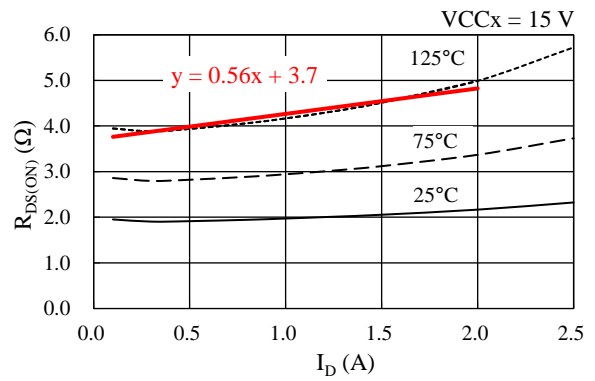

Figure 14-3. Linear Approximate Equation of  $R_{DS(ON)}$  vs.  $I_D$
Steady-state loss in a power MOSFET can be computed by using the  $R_{DS(ON)}$  vs.  $I_D$  curves, listed in Section 15.3.1. As expressed by the curves in Figure 14-3, a linear approximation at a range the  $I_D$  is actually used is obtained by:  $R_{DS(ON)} = \alpha \times I_D + \beta$ . The values gained by the above calculation are then applied as parameters in Equation (9), below. Hence, the equation to obtain the power MOSFET steady-state loss,  $P_{RON}$ , is: